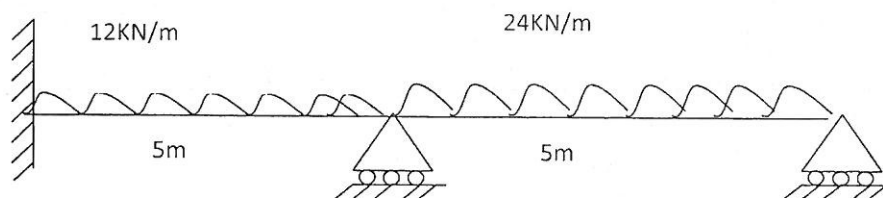

Fig.2
- Q.2. Analyse the beam loaded and supported as shown in fig.2, by using finite element method. Take $E = 2 \times 10^5 \text{ N/mm}^2$, and $I = 5 \times 10^6 \text{ mm}^4$ 18